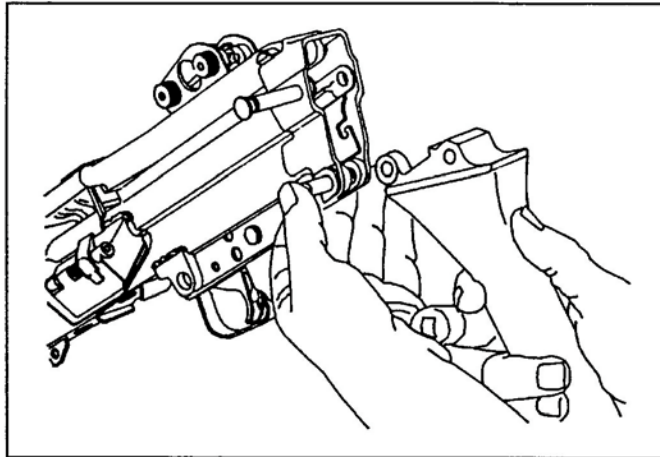

Figure 28. Replacement of the buttstock and shoulder assembly.
- (1) Pull the retaining pin to the left side of the receiver.
- (2) Align the trigger mechanism with the slot on the bottom of the receiver. To hold the trigger mechanism in place, push the lower retaining pin into the right side hole on the rear of the trigger mechanism assembly.
- f. Replace the buttstock and shoulder assembly (Figure 28). Support the trigger mechanism with your left hand. Align the lower hole in buttstock and buffer assembly with the rear hole in the trigger mechanism. Push the lower retaining pin to the right.